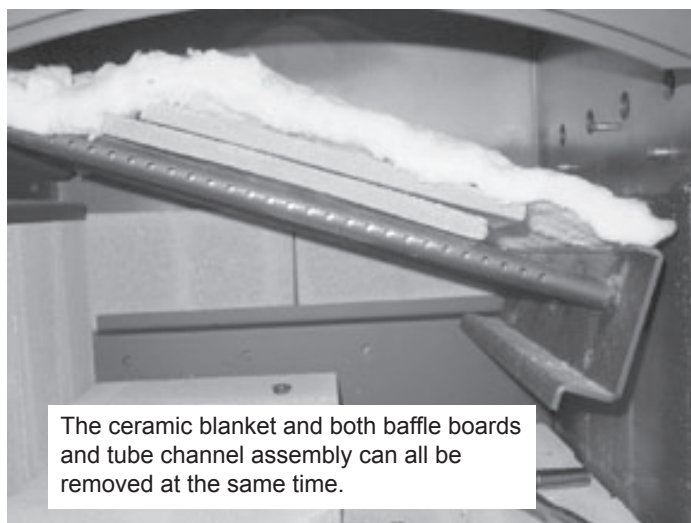

Figure 23.3
2. The baffle board has 2 pieces. With the ceramic blanket still in place, slide one baffle piece over the top of other one but still keep it all components inside the firebox. **Figure 23.3.**